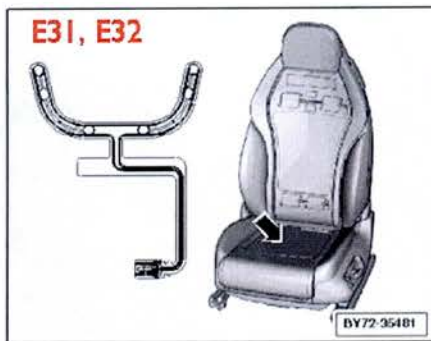

Figure 1
3. First check the occupancy sensor, E31, is function correctly (see Figure 1)